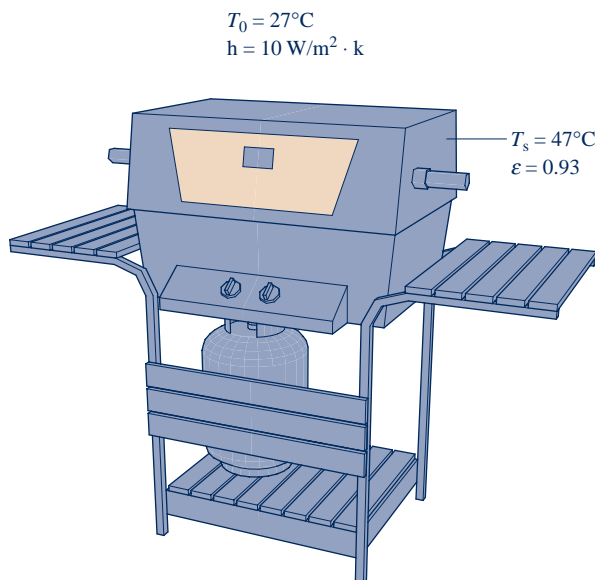

Fig. P2.52
2.52 The outer surface of the grill hood shown in Fig. P2.52 is at 47°C and the emissivity is 0.93. The heat transfer coefficient for convection between the hood and the surroundings at 27°C is 10 W/m² · K. Determine the net rate of heat transfer between the grill hood and the surroundings by convection and radiation, in kW per m² of surface area.